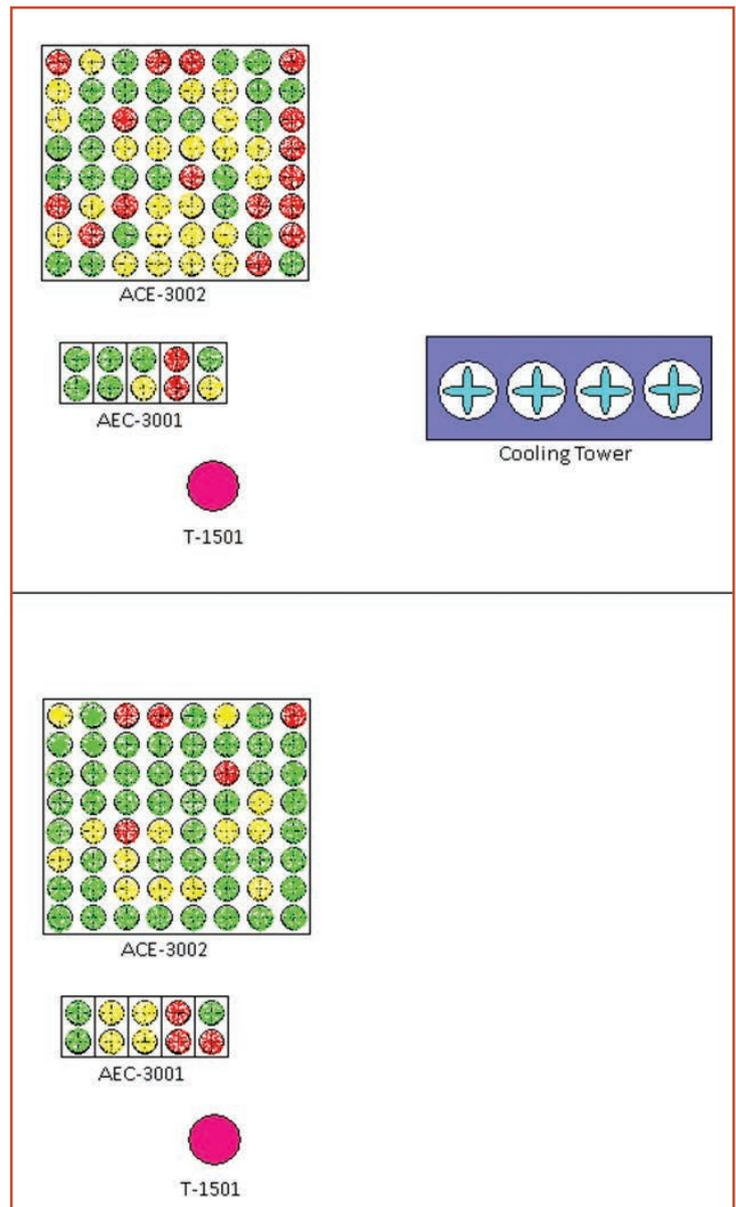

Figure 8: Plant layout
ZPC includes two separate methanol plants. There are three sets of air cooled exchangers, with a total number of 106 fans in each plant (Figure 8). These fans are electric motor driven, in which power is transmitted by timing belts. Because of its vicinity to the Persian Gulf, ZPC is located in a hot and high humidity coastal area. As such, two main parameters play important roles in the operation of these machines: humidity and temperature (Min: 15°C and Max: 50°C).
**Humidity:** The relative humidity percentage in this region varies from 20 to about 95 percent during a year. Moreover, injected steam into a tower (T-1501) (Figure 8), which comes out from the top, dispenses around the ACE and enters into electric motors due to an existing draft at the bottom of the air cooled exchanger.
**Temperature:** All the electric motors are erected vertically below the exchangers, so the drive end (DE) side of the bearing is too close to the finned tubes exposed to high temperatures.
According to the defined routine, ultrasonic sounds of electric motors are recorded, saved and analyzed monthly. The results of these data are analyzed statistically as well. Figure 8 shows the plant layout and potentially contaminant machines that are affecting the air cooled exchangers.
According to Figure 8, the cooling tower in plant 2 and the T-1501 in both plants are the main contaminant equipment. Likewise, the direction of wind in this region causes the outlet vapor from the T-1501 and the humidity from the cooling tower to move toward the ACEs and enter them.
The results of the collected data showing the overall conditions of the electric motors are shown in Figure 8 using different colors. The red color